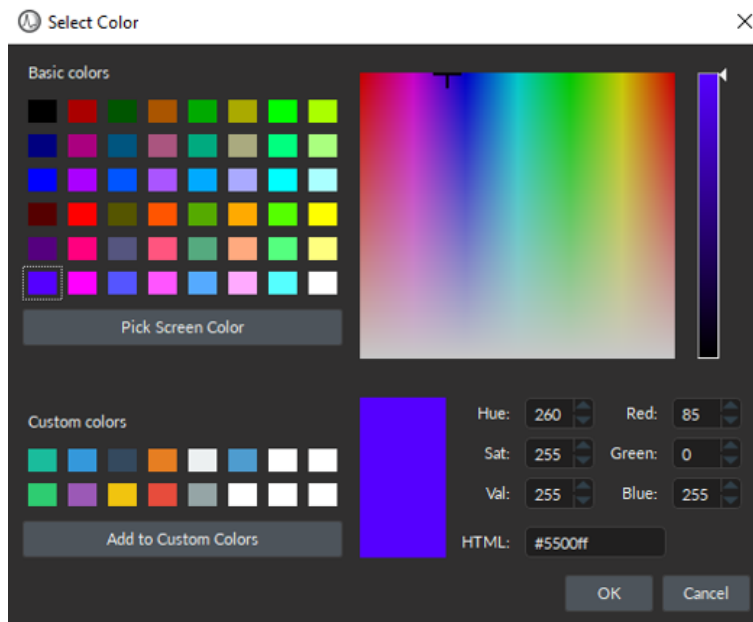

Figure 10.51: *Select Color Window*
4. The **Trace Colour buttons** (Fig. 10.50, a) in the **Options** column (Fig. 10.50, 4) opens the **Select Color** window (Fig. 10.51), where users can assign a unique/more intuitive color to each graph to easily identify and interpret the data.